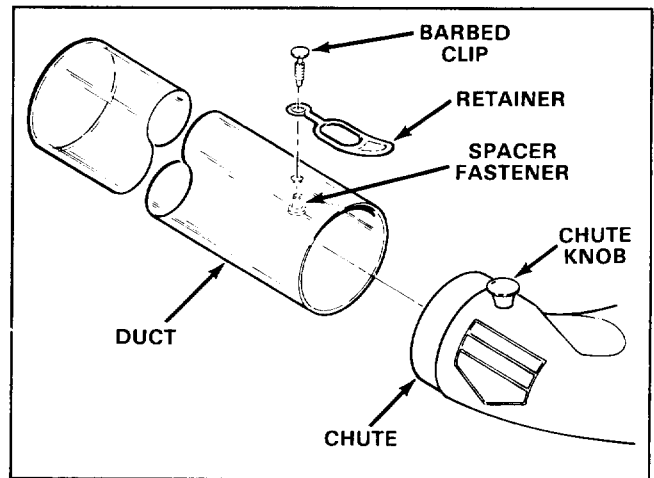

Figure 5
1. Secure retainer to duct with barbed clip and spacer fastener (Fig. 5).
2. Slide duct onto chute assembly, aligning duct retainer with chute knob. Hook retainer onto knob, securing assemblies (Fig. 5).